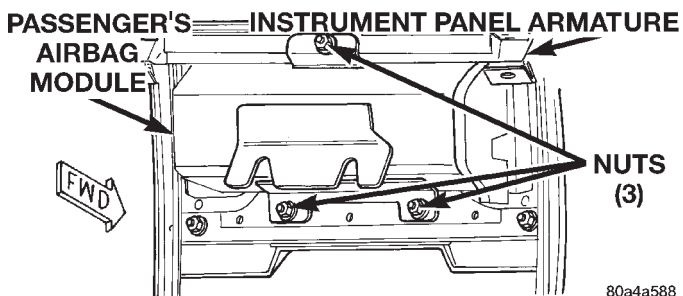

Fig. 5 Passenger Side Airbag Module Remove/Install
(3) Place the instrument panel face down on a work bench.
(4) Remove the three nuts that secure the passenger side airbag module to the instrument panel armature (Fig. 5).